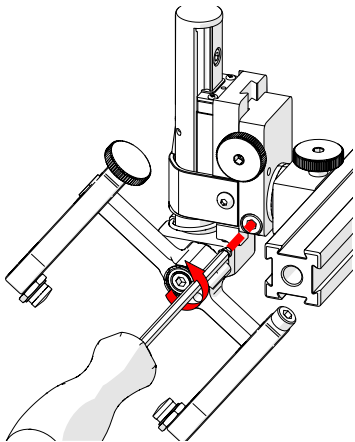

Fig. 118 - Loosen 3 mm screw
2. Using the supplied 3 mm hex driver (*Fig. 51*), loosen the longitudinal adjustment screw (*Fig. 118*).